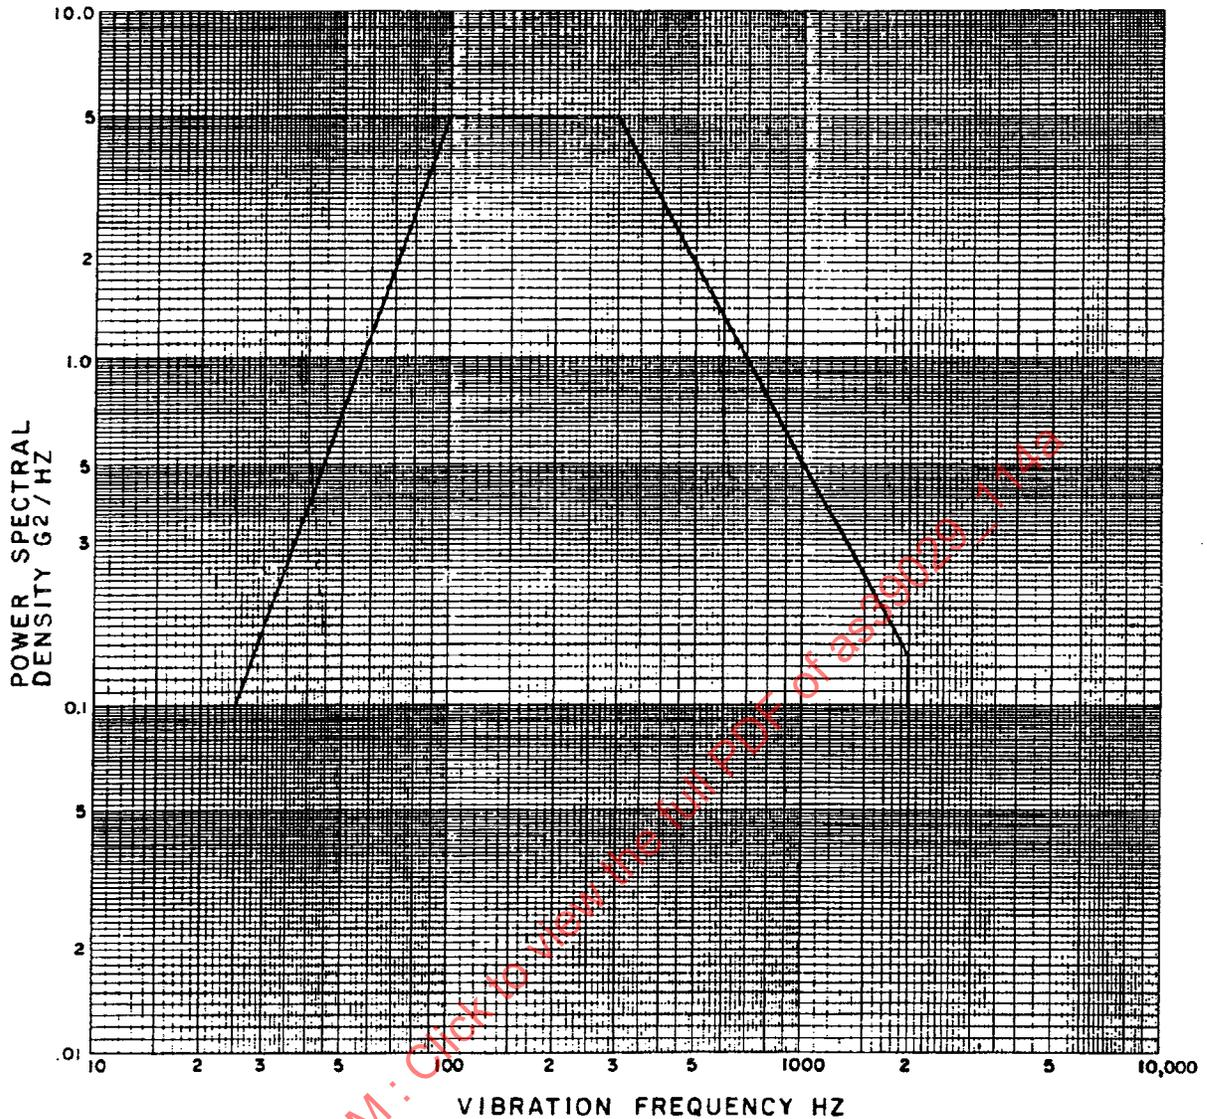

FIGURE 8 - VIBRATION ENVELOPE
6. VIBRATION: THE VIBRATION SHALL BE IN ACCORDANCE WITH AS39029 EXCEPT TEST CONDITION IV SHALL BE TEST CONDITION V. USE THE VIBRATION ENVELOPE SHOWN ON FIGURE 8.